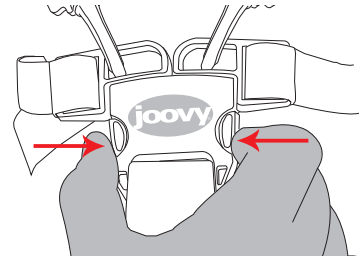

Figure 24
- Unlatch the waist/shoulder buckle by squeezing the latch releases on both sides of the buckle and removing the male ends of each buckle. See Figure 24.